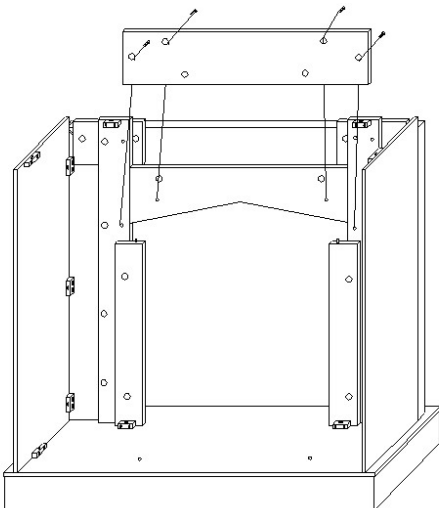

Fig. 8
Step 8: Attach Mid Front Panel [L] to Upper Front Panel [C] and Front Panels [G] with 4 KD screws. See Fig. 8